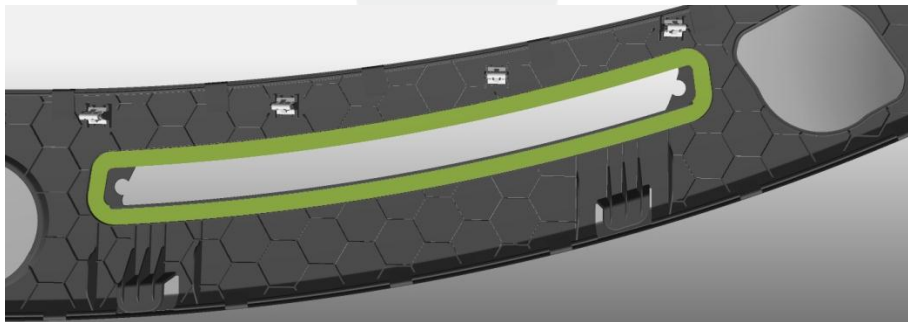
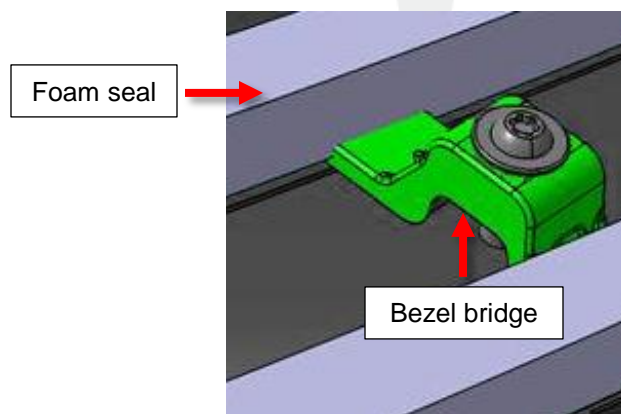

Figure 7 (Shown with bezel and spacers removed for clarity)
Figure 8 (Shown with bezel removed for clarity)
11. Remove the adhesive backing from one of the foam seals. Secure the seal around the cutout in the grille (Figure 7). Ensure that the seal covers the edges of the bezel bridges (Figure 8).